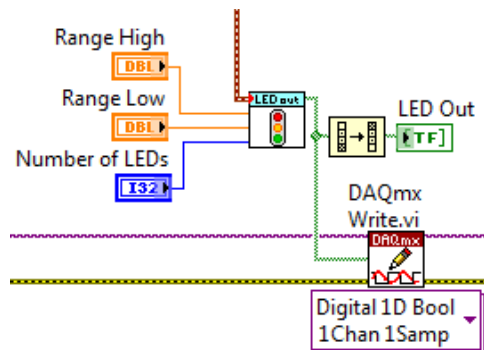

Figure 41. Use Reverse 1D Array to swap the order that the Boolean array is displayed.
29. Place the VI in between the LED out subVI and the LED out indicator and wire it up like in Figure 41.